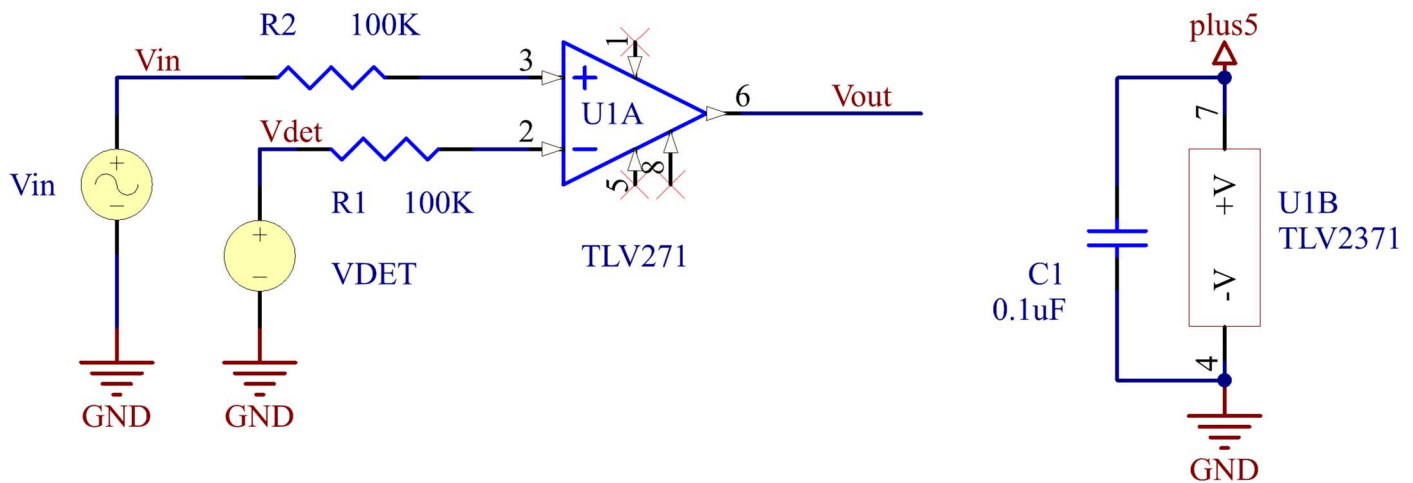

Figure 4: Comparator circuit with a single supply voltage of 5V.
- Use a 2 V_{PP} , 100Hz sine wave for V_{in} input signal for the circuit in Fig. 4.
- Replace R2, Fig 4 with the RC network you designed in the pre-lab.